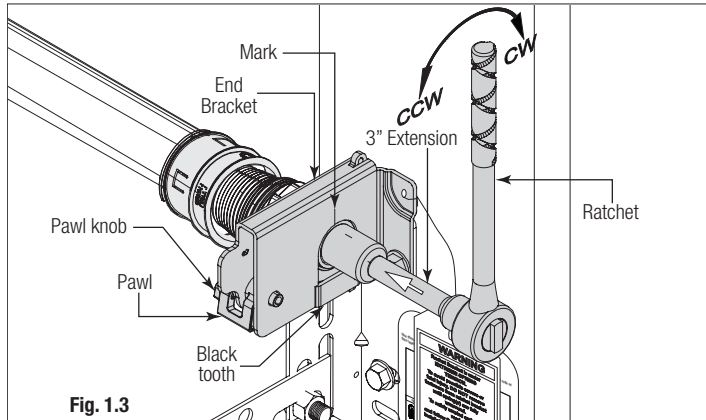

Fig. 1.3
**IMPORTANT:** PAWL KNOB MUST BE IN UPPER POSITION TO REMOVE SPRING TENSION, AS SHOWN IN FIG. 1.3.
**STEP 4:** To remove spring tension, place a ratchet with a 5/8" socket on the winding shaft, as shown in Fig. 1.3.